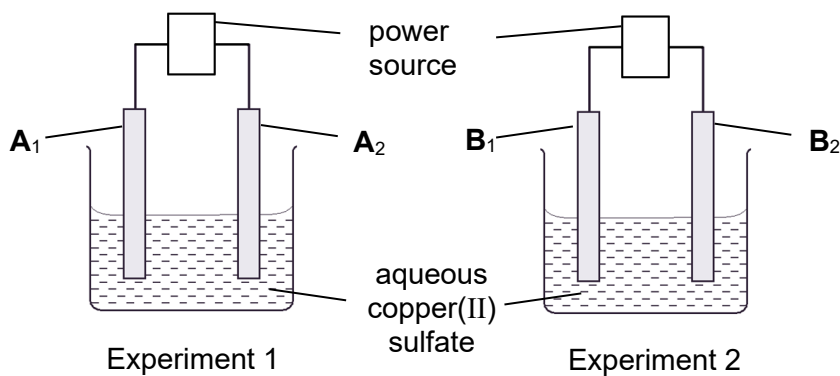

Fig. 7.1
- 7 Two electrolysis experiments are carried out using aqueous copper(II) sulfate as the electrolyte as shown in Fig. 7.1. Experiment 1 uses electrodes **A** while experiment 2 uses electrodes **B**.